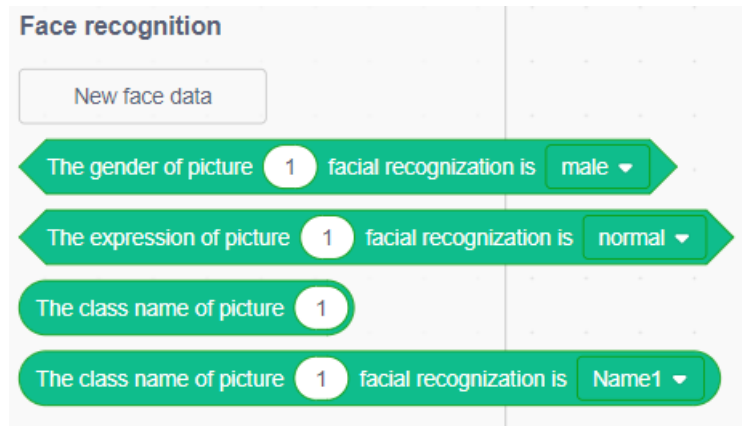

Figure 5.7 Creating facial data
Step 1: Create facial data, as shown in Figure 5.7.